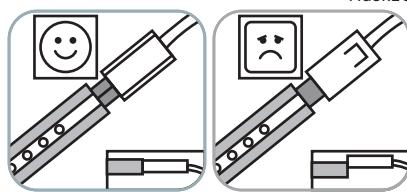

FIGURE 5
- Connect a linking cord by placing the exposed male connector of the linking cord into the matching female connection point on the installed Bright Strip (see Figure 5).
- Connect the LED Driver to the Bright Strips by placing the female connector of the linking cord coming from the LED Driver onto the male connection point of the first Bright Strip in the chain, ensuring the connector is flush with the fixture. Snap the clear securing tab over the connection point (see Figure 5 & 6).